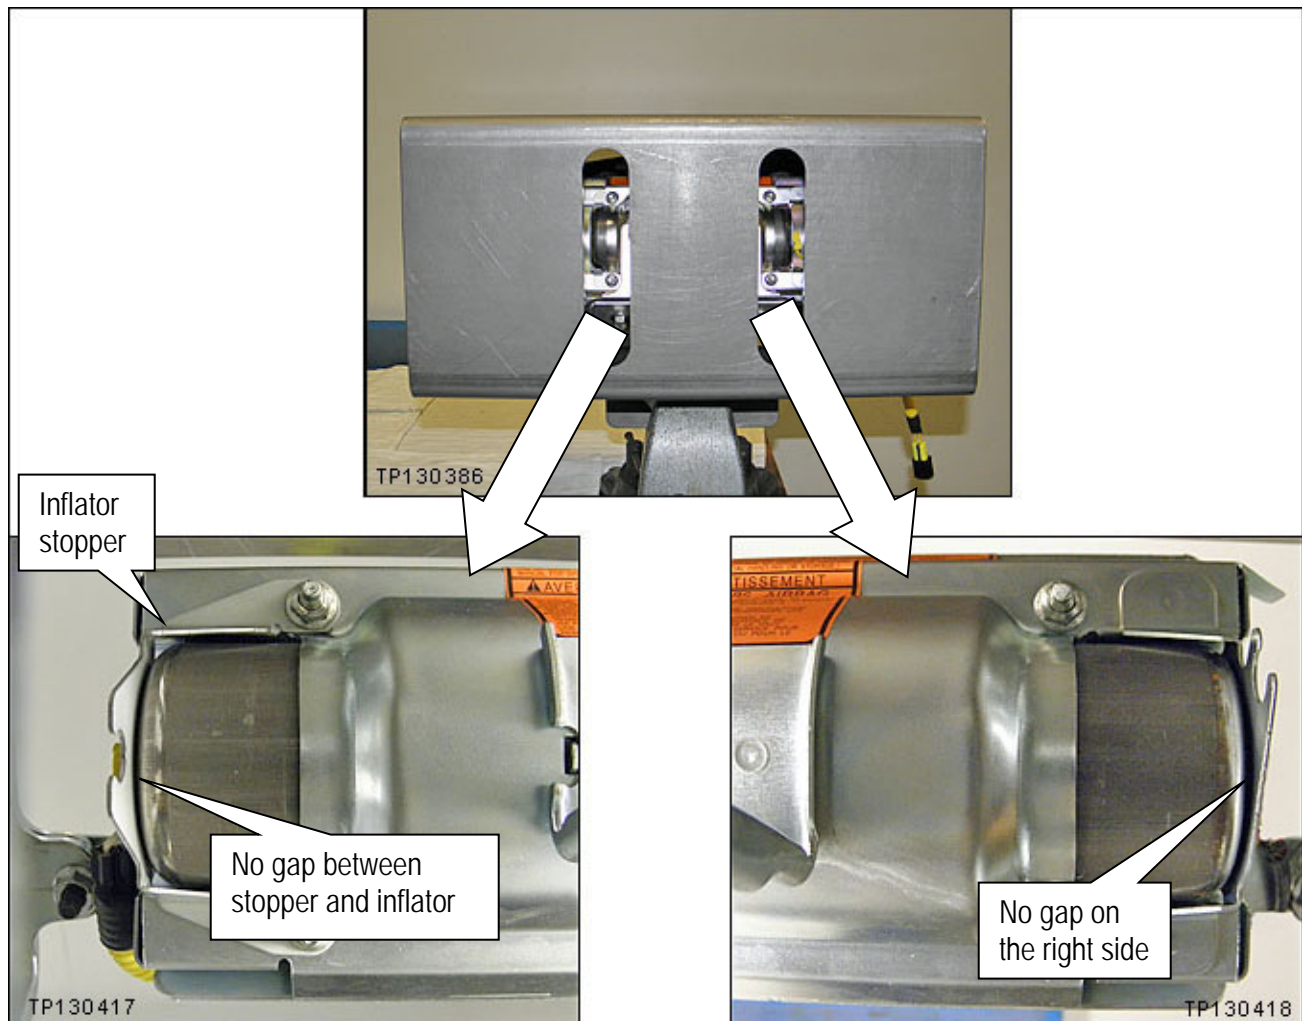

Figure M15
18. Install the inflator stopper and 4 inflator securing nuts finger tight (see Figure M15).
19. Make sure the inflator is pushed all the way into its housing – no gap on the right side (see Figure M15).
20. Make sure there is no gap between the inflator stopper and the inflator on the left side (see Figure M15).